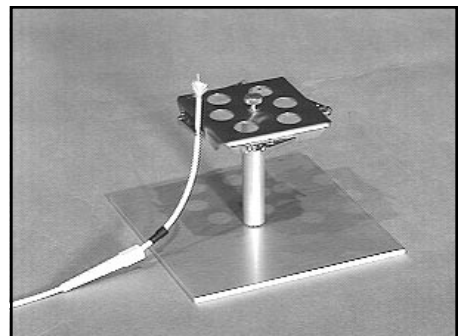

Fig. B11
2. ASSEMBLE THE CURING STAND ACCORDING TO FIGURE B11
Clip the cable in the curing stand where the fiber end will not touch anything (Fig. B11). When mounting more than one connector, prepare all fiber ends before mixing the epoxy.